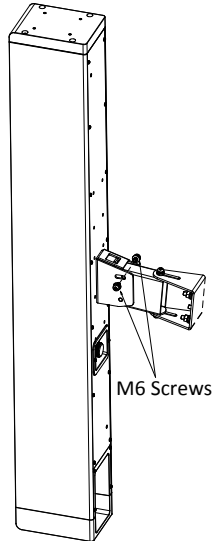

Figure 3-5 Angle Adjustment
11. After the wiring is completed, adjust the extended length and rotation angle according to needs, and retighten the two M6 screws in step 7, and then fix the column speaker with two supplied M6 screws as shown in Figure 3-5.